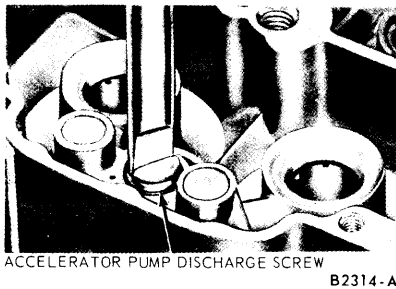

FIG. 19—Booster Venturi Removal or Installation
4. Remove the primary stage booster venturi assembly and gasket (Fig. 19). Invert the main body and let the accelerating pump discharge weight and the ball fall into the hand.
17. Drop the accelerating pump discharge ball into its passage in the primary side of the main body. Seat the ball with a brass drift and a light hammer. **Make sure the ball is free.** Drop the accelerating pump discharge weight on top of the ball. Position the primary booster venturi assembly and gasket in the main body. Install the retaining screw securely (Fig. 19). **The primary booster screw is hollow.**